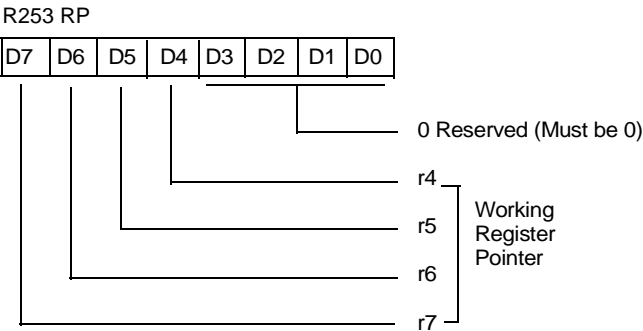

Figure 16. Register Pointer Register
**Register File.** The register file contains three I/O port registers, 236 general-purpose registers, and 16 control and status registers (Figure 15). The instructions can access registers directly or indirectly via an 8-bit address field. The Z86C91 also allows short 4-bit register addressing using the Register Pointer (Figure 16). In the 4-bit mode, the register file is divided into 16 working register groups, each occupying 16 continuous locations. The Register Pointer addresses the starting location of the active working register group.